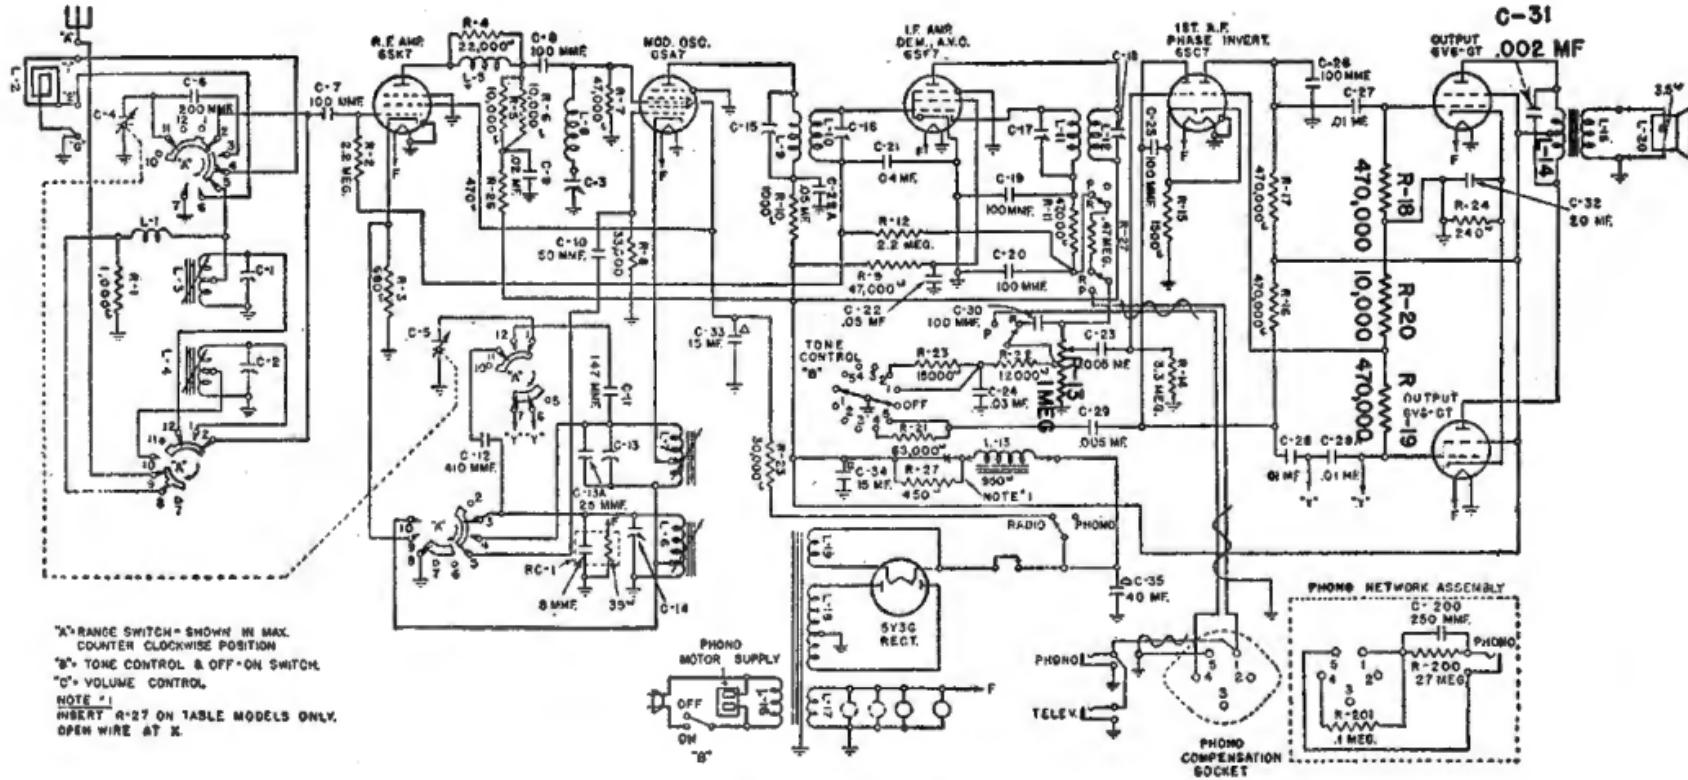

FIG. 21-14.—Schematic diagram of the Stromberg-Carlson No. 920 receiver.
Figure 21-14 shows a typical push-pull amplifier. Note that the IF amplifier, diode detector, and AVC circuit are combined in a single 6SF7 tube. The twin triode 6SC7 combines the functions of first AF amplifier and phase inverter. The signal from the detector is tapped from the volume control (*R*-13) and fed to the grid of the first AF section of the 6SC7 tube. The output from this driver is fed by resistive-capacitive coupling to the control grid of the lower 6V6-GT output tube. The grid leak for this latter tube is made up of resistors *R*-19 and *R*-20. The combined resistance of these two is 480,000 ohms. The tap between the two furnishes $10,000/480,000$ or $\frac{1}{48}$ of the voltage to the grid of the inverter section of the 6SC7 tube, the gain of which is 48 under these operating conditions. The output of the inverter is then resistive-capacitive coupled to the control grid of the upper 6V6-GT output tube. In this way, equal
4. The receiver of Fig. 21-14 requires a new output transformer and an exact replacement is not available. Use the universal output transformer chart of Fig. 10-11 for reference and choose (a) the type of transformer that should be used (wattage), (b) the secondary taps that should be used.